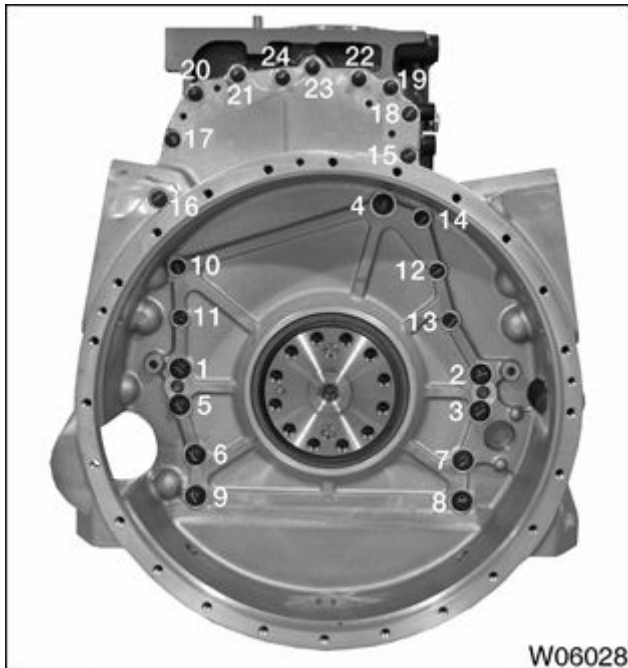

Figure 743 Flywheel housing torque sequence
12. Torque flywheel housing fasteners using torque sequence of (Figure 743) to following torque values: